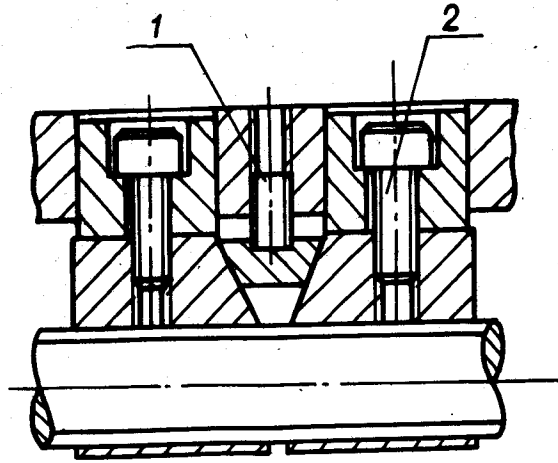

Fig.21 Adjust the clearance of cross feed nuts
- * The handwheel (12) is used to feed or retreat the quill. Turning the handwheel in counter-clockwise until a full stop is reached will automatically eject the tool being used.
- * The tailstock clamp lever (13) locks the tailstock to the bedway. To lock, put the lever up. To release, put it down.
- * The quill lock lever (15) prevent the quill from moving. Before operating the handwheel (12), release the lever. Feeding the quill to desired position, lock it.
- * Two set screws (14) on either side of the base is used to offset the tailstock. After taper adjustment is made, retighten both screws
5. See the Fig. 21 Adjust the clearance of cross feed nuts on the saddle as following.